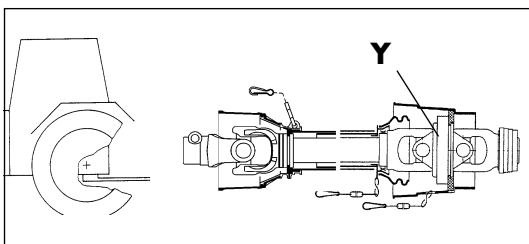

Fig. 3-3
- Lock safety pipe (X) with chain to prevent it turning.
- The wide-angle joint (Y) must be on the machine side (fig. 3-3). Make sure the cardan shaft engages in the shaft ends.
- Raise the support foot (Z) and lock in position.